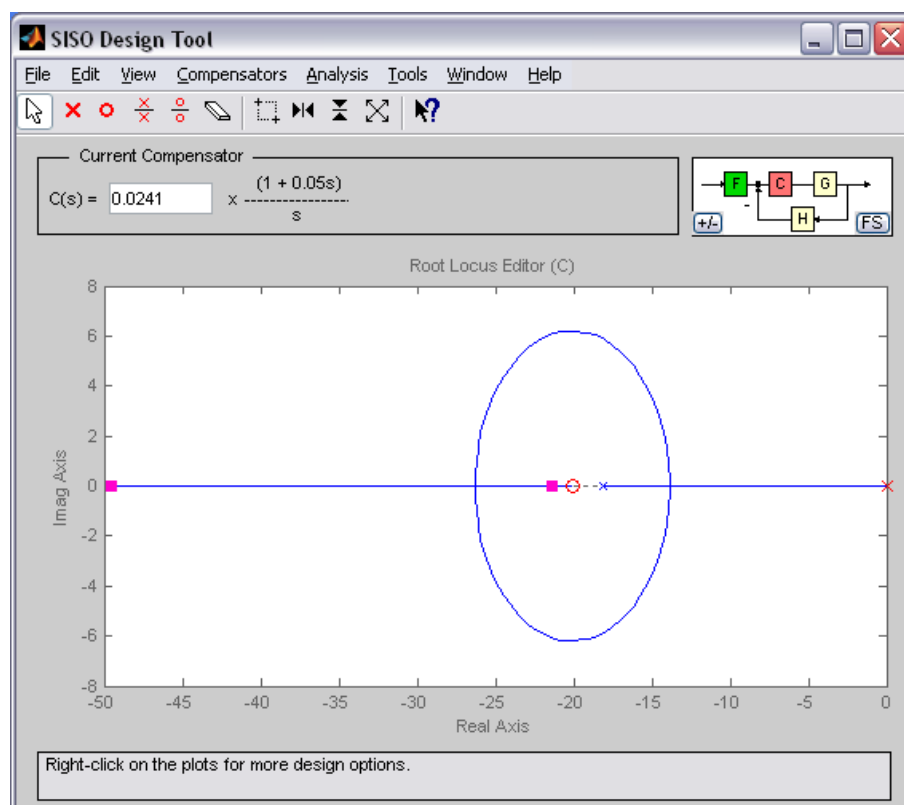

Figure 22 Root locus with PID controller
- An example of a root locus plot of PMS velocity model with a PID controller is presented in Figure 22